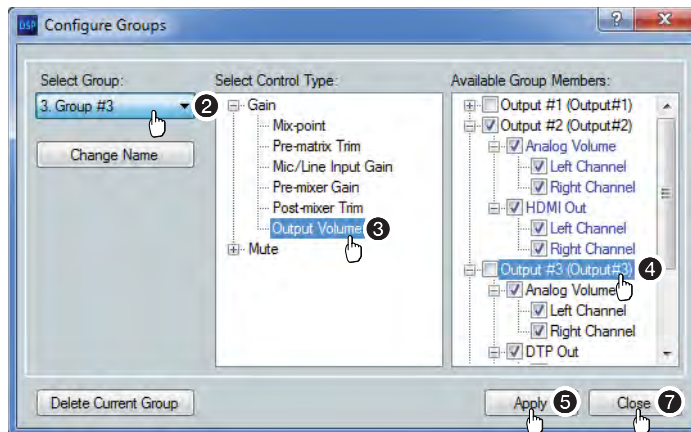

Figure 52. Configure Groups Dialog Box
2. In the **Select Group** drop-down box, click a group to select it (see figure 52).
2. In the **Select Group** drop-down box, click a numbered group (such as **Group #3**) to select it (see figure 52, on the previous page).
- Click **Add a Group** to open the Configure Groups dialog box (see Configuring a group master on page 104 and figure 52).